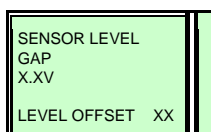

Figure 6-16, Level Offset Menu Screen
2. Using the printer's operator panel, access the Service Mode and then proceed to the Level Offset menu screen (Figure 6-16).